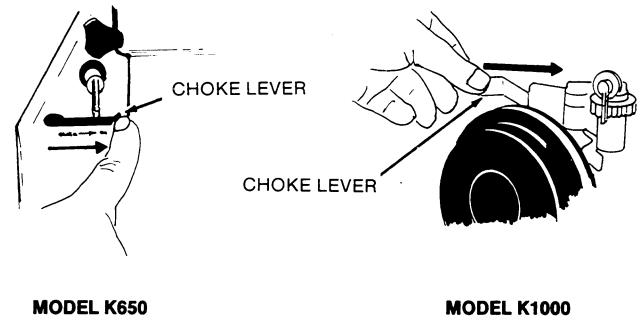

FIGURE 4. CLOSING THE CHOKE
2. Close the choke if the engine is cold (engine has not run for awhile). Figure 4 shows the chokes of the two models.